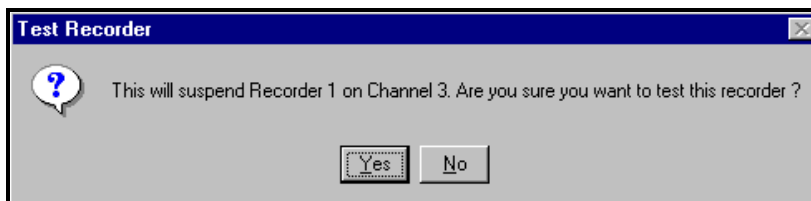

Figure 26: Test Recorder Prompt
2. A window similar to Figure 26 below should appear, asking if you want to test the Recorder. Press Yes.